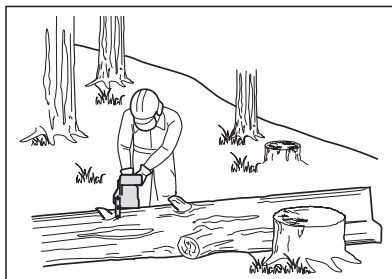

Fig. 12d
4. When bucking on a slope always stand on the uphill side of the log (Fig. 12d). When “cutting through”, to maintain complete control release the cutting pressure near the end of the cut without relaxing your grip on the product handles. Don’t let the chain contact the ground. After completing the cut, wait for the saw chain to stop before you move the product. Always stop the motor before moving from tree to tree.